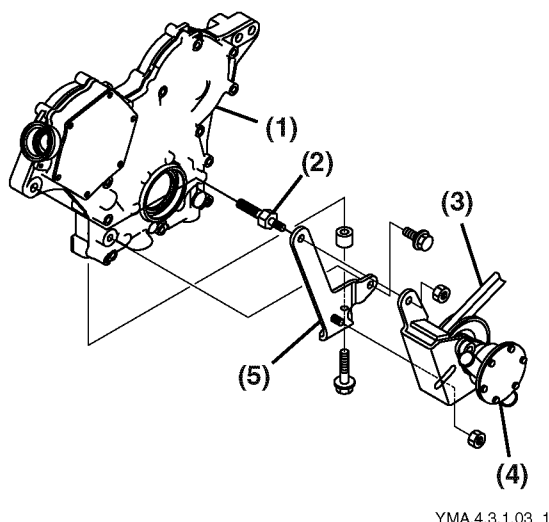

Figure 7-3
The seawater pump (Figure 7-3, (4)) is driven by a V-belt (Figure 7-3, (3)).
2. Remove the seawater pump assembly from the gear housing cover (Figure 7-3, (1)).